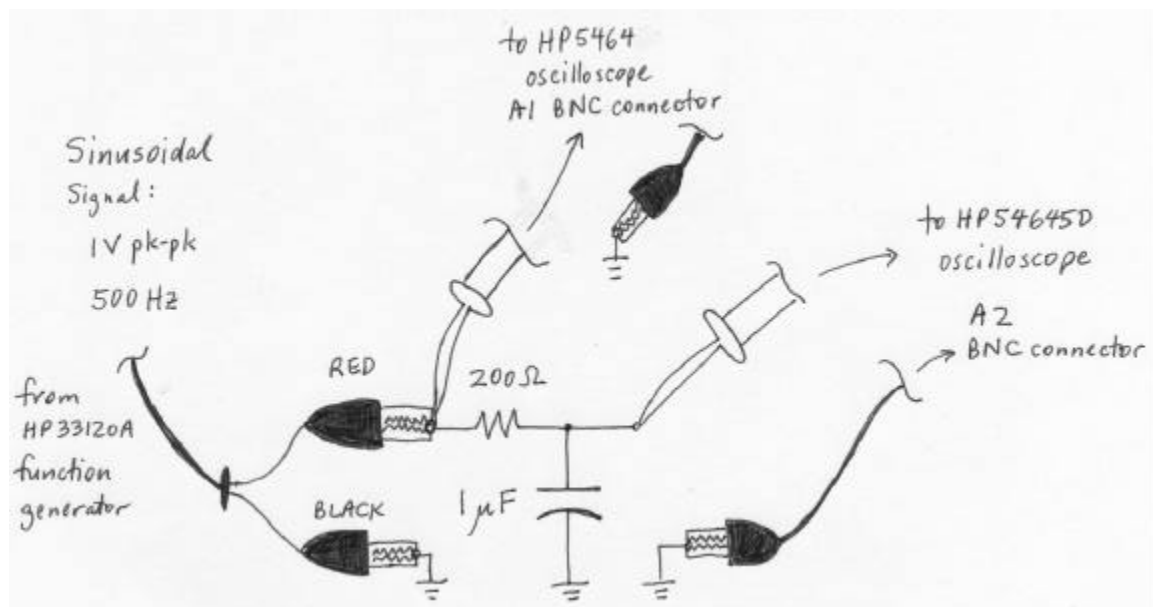

Figure 6: Set-up to graph the input & output signals of an RC circuit on the oscilloscope.
1. Build the circuit shown in Figure 6.